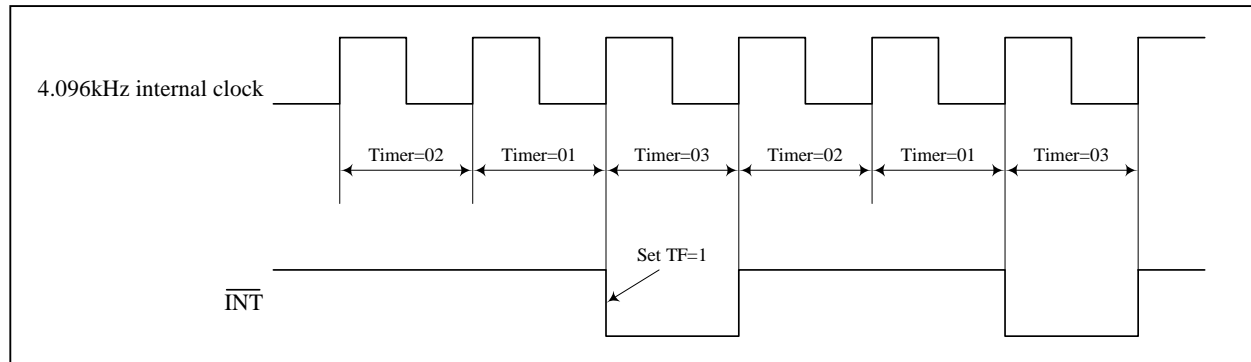

Fig.1 Example 1 of timer interrupts
*Example 1:* If TE = 1, TD1 TD0 = 00, Timer = 03, TIE = 1, TF = 0, TI/TP = 1 are written into PT7C4363, timer register counts down every  $1/4.096\text{kHz}$  seconds from 03 to 01 then 03 cycled and  $\overline{\text{INT}}$  output negative pulse with  $1/4096$  seconds width. See Fig.1.